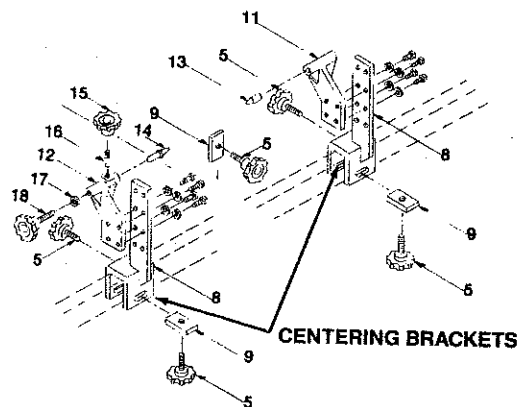

FIG. 32
The centers mounting brackets also consist of a lower portion that fits on the square mounting bar and a stationary center fixture and an adjustable centering fixture. The stationary fixture will normally be used on the left hand side of the mounting bar when facing the reel loading position. There are three (3) vertical positions for the center fixture, but they will normally be used in the middle position as shown in the picture. These brackets should be mounted to the square bar so that the centering pins are facing the back of the machine and directly over square mounting bar. These centering fixtures are used on greens mowers or any reel that doesn't have a hub that can fit into the "V" bracket. (See FIG. 32)